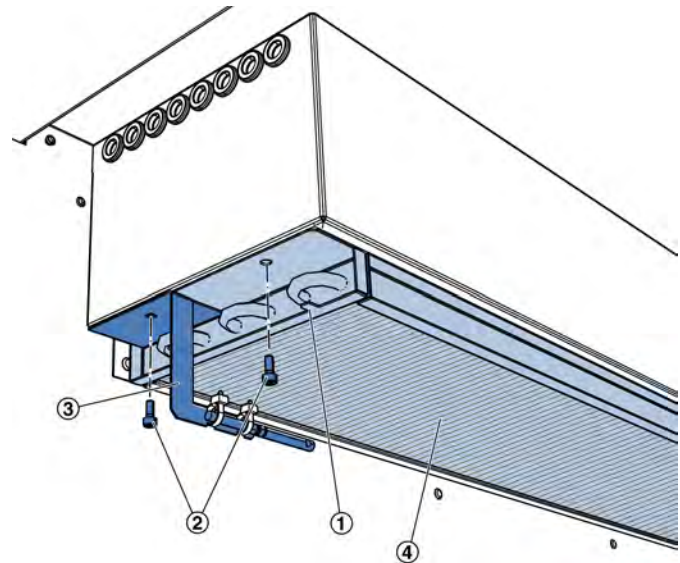

Fig. 90: Removing the heat exchanger
5. ▶ Disconnect the cable at the protective conductor connection (Fig. 90 /1) of the heat exchanger.
6. ▶ Dismantle the holder of the heat exchanger by loosening the two screws (Fig. 90 /2), and leave the holder (Fig. 90 /3) of the temperature sensor hanging to the side. Remove the heat exchanger (Fig. 90 /4) by lifting it down out of the device.